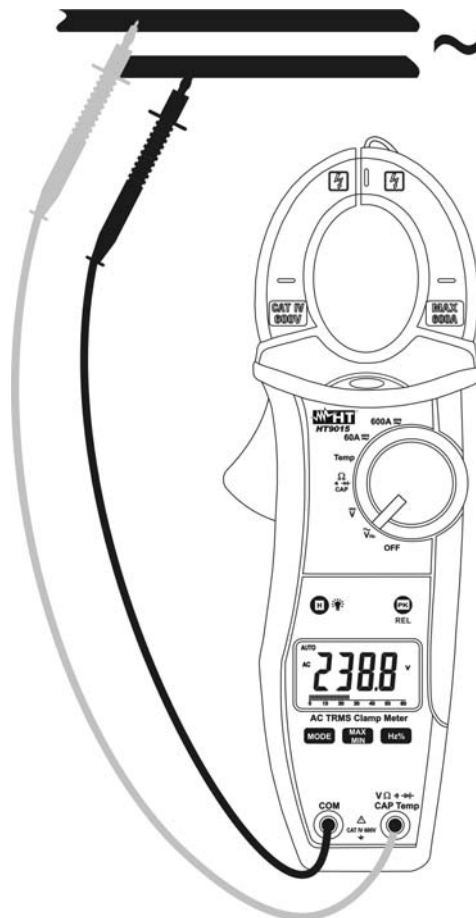

Fig. 7: Taking AC voltage measurements
3. Insert the red test lead plug into $V\Omega^{\sim}) \rightarrow CAPHz\%Temp$ jack and the black test lead plug into **COM** jack (Fig. 7)